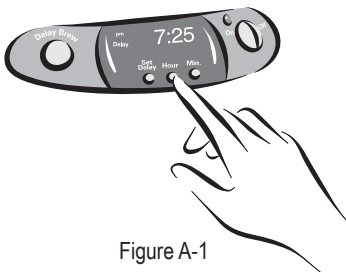

Figure A-1
- 1) Press and hold the HOUR button until the clock displays the correct hour. See Figure A-1.